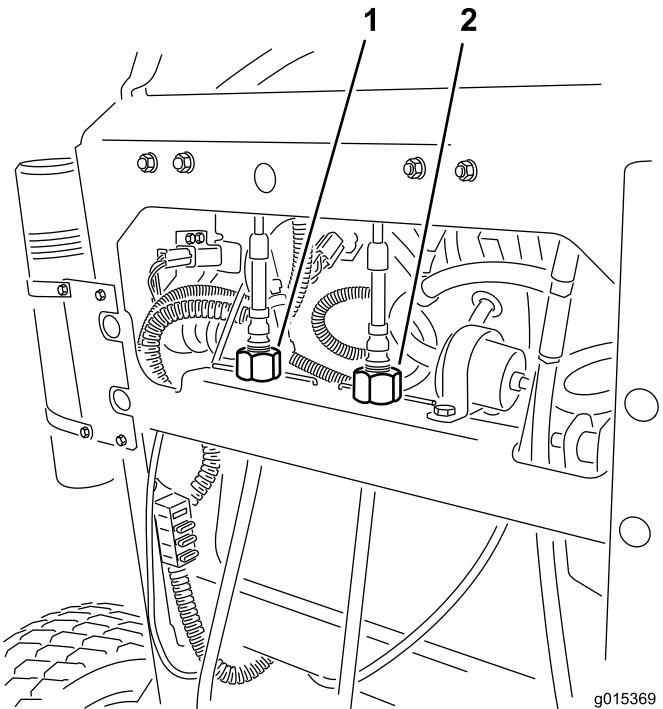

Figure 56
4. Rotate the right cable adjustment to position the right motion control in the center of the control panel neutral lock slot (Figure 56).